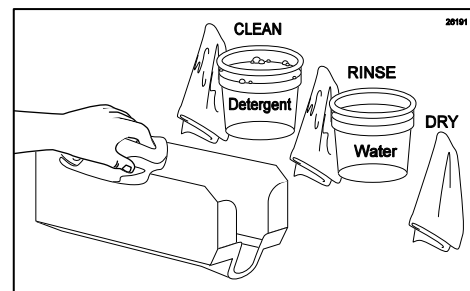

Figure 157
2. Remove each tray from the cabinet and clean them with a single service towel and detergent water. Then rinse and dry thoroughly. (See Figure 157.)